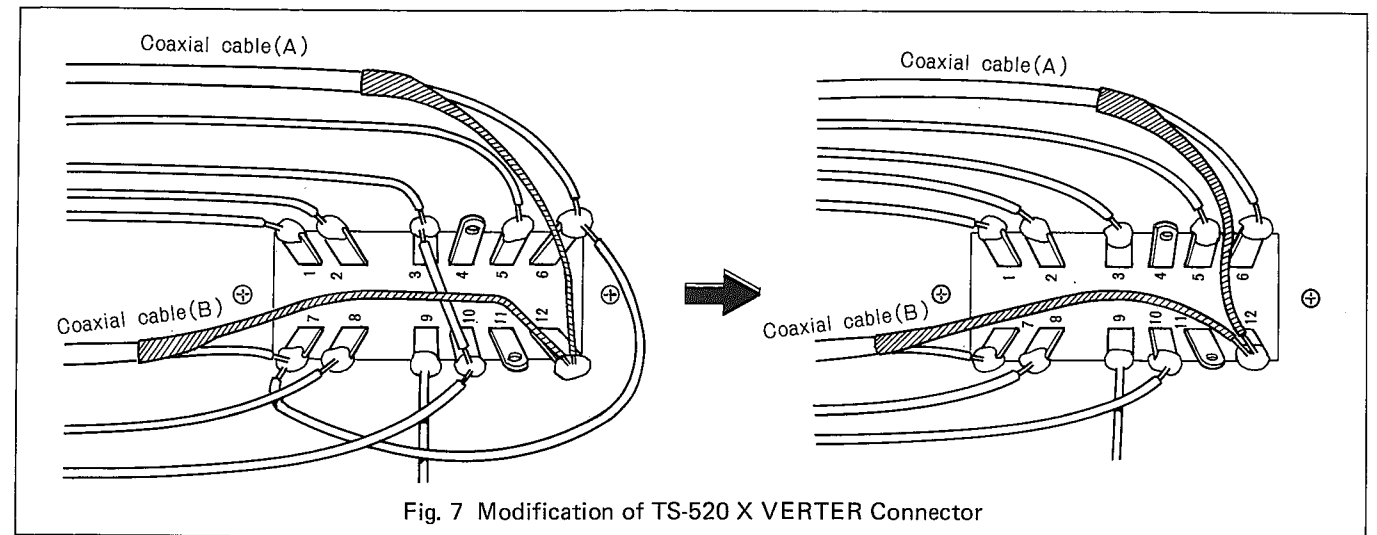

Fig. 7 Modification of TS-520 X VERTER Connector
- ② Change the wiring of the X VERTER connector as shown in Fig. 7. Remove the shorting wires between No. 3 and No. 10 and between No. 6 and No. 7 of the X VERTER connector.